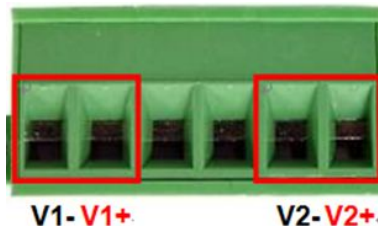

Figure 2.6 - Power Terminal Block
1. Insert the positive and negative wires into the PWR1 (V1+, V1-) and PWR2 (V2+, V2-) contacts on the terminal block connector as shown below in Figure 2.6.